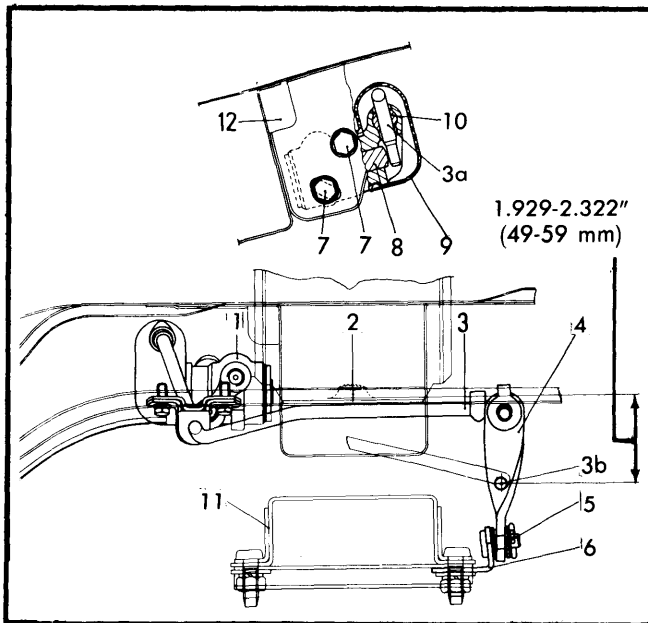

Fig. 2 Brake Pressure Regulator Measurement and Adjustment Points for 128 & Strada Models
128 & Strada — With pressure regulator mounting bolts loosened and link (4) disconnected from control arm anchor pin (5), check that the axis of torsion bar end (3b) is 1.929-2.322" (49-59 mm) from center of rubber buffer seat (2). Once obtained, position pressure regulator with piston (8) just touching torsion bar end (3a). Tighten regulator mounting bolts (7) on bracket (12), then connect link (4) to control arm anchor pin (5). See Fig. 2.